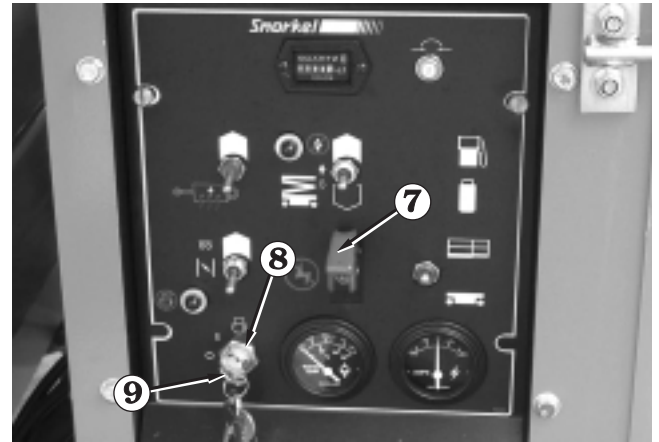

Figure 10.2
1. Push the **Emergency Stop** switch **7** down (OFF) and set the **Main Power** switch **8** to OFF then remove the key **9** (see Figure 10.2).